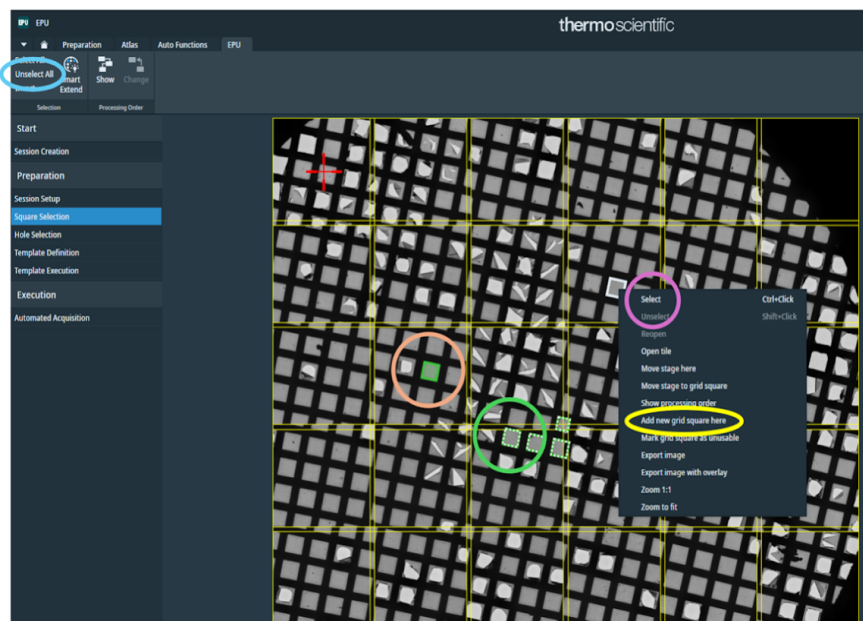

Figure 11. Square selection in EPU.
4.12.4.1. Go to the *Square Selection* tab (Figure 11).